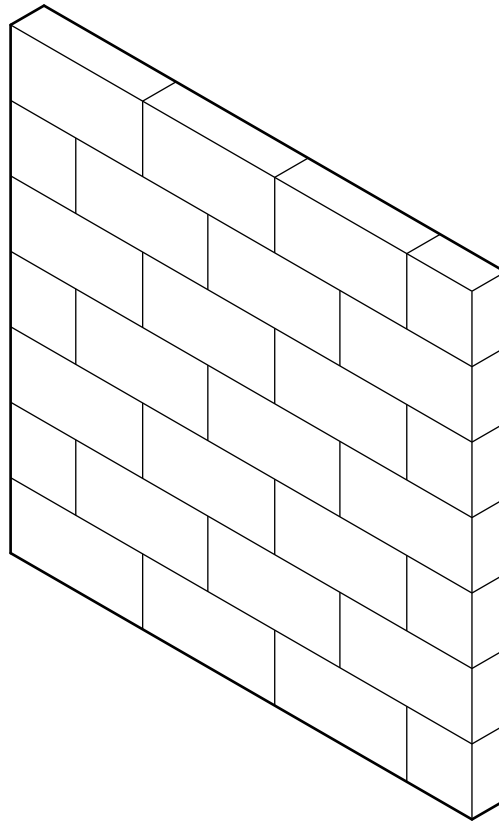

Fig. 1
Fig. 1 shows an internal wall constructed from dense concrete blocks.
(a) Give **four** justified design requirements for an internal wall of the type shown in Fig. 1.
- (e) (i) State a **suitable specific surface finish** that could be fixed to the internal wall shown in Fig. 1.